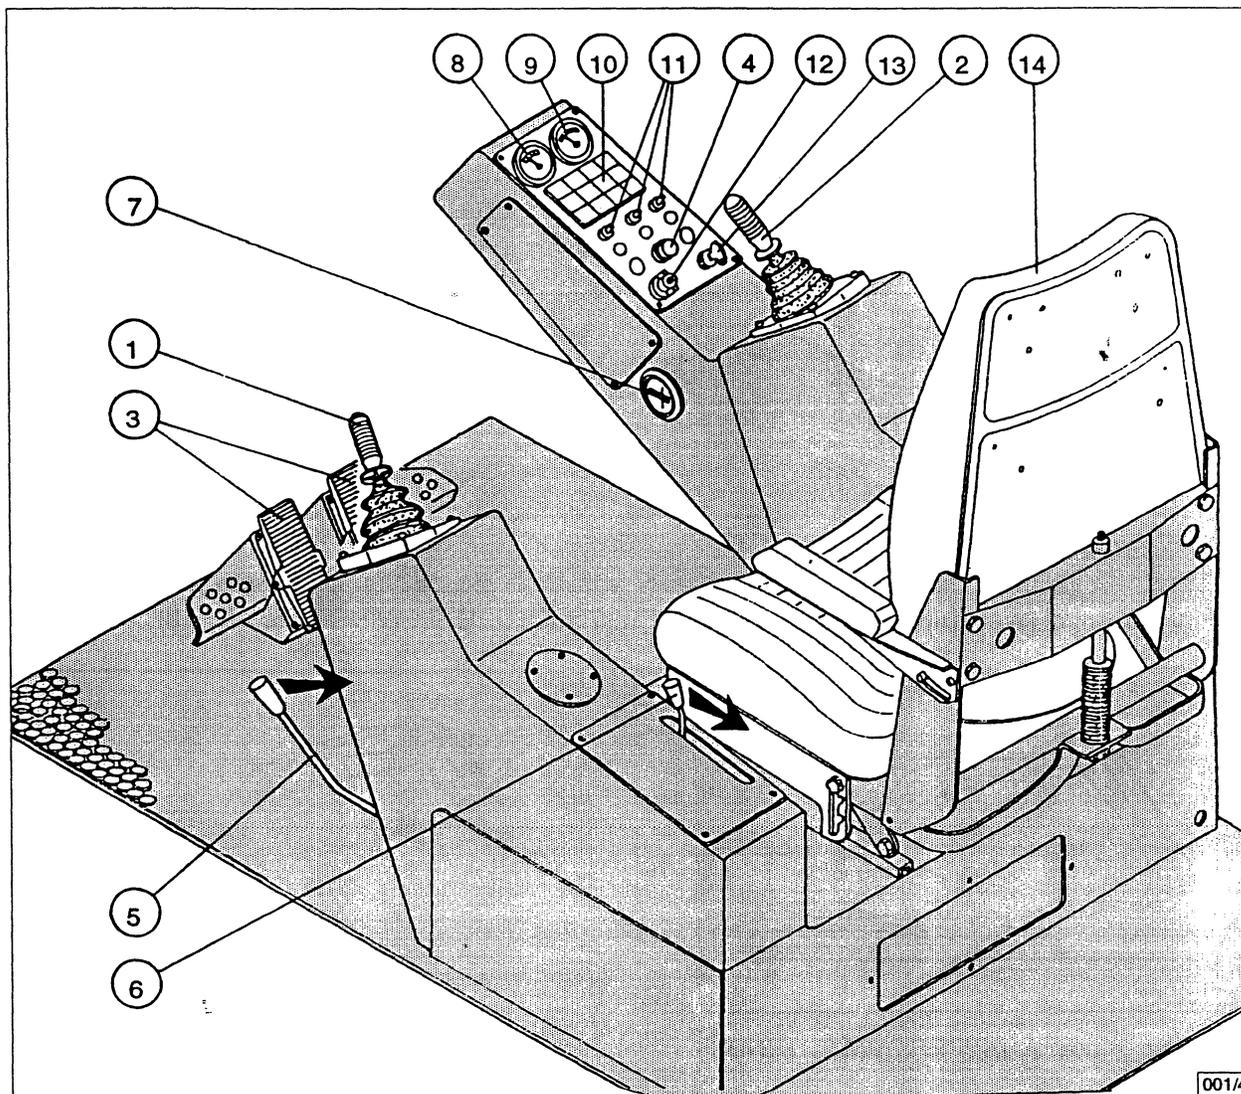

Fig. 18
4.03 HAND ACCELERATOR LEVER (6, fig. 18)
4.04 HAND LEVER, DISCONNECTS ALL HYDRAULIC CONTROLS (5, fig. 18)